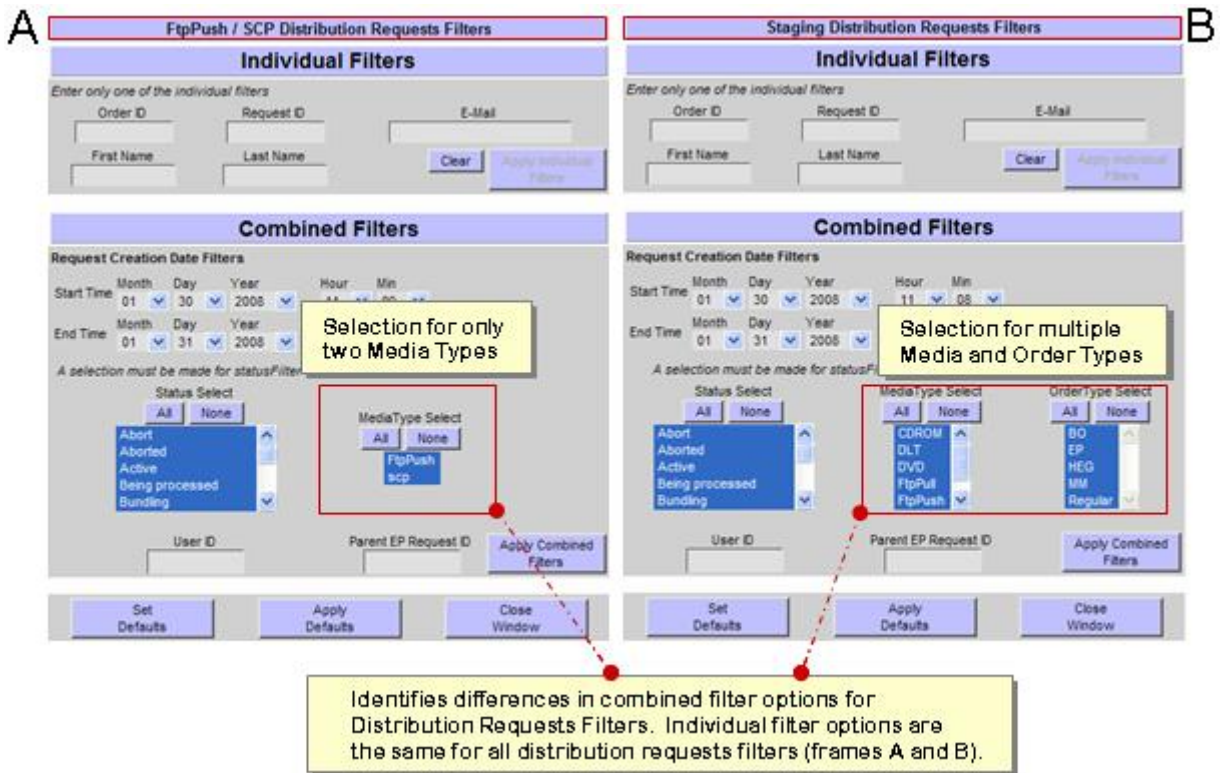

Figure 15.6-24. FtpPush/SCP (A) and Staging (B) Distribution Requests Filters
- The **FtpPush/SCP Distribution Requests** page (Figure 15.6-24) displays.
- The **FtpPush/SCP (or Staging) Distribution Requests Filters** window (Figure 15.6-24, Frame A (or Frame B) appears.
- 1 - **Individual Filters** – displays limited options (Figure 15.6-24, Frame A (or B) to set a defined criteria specific to a distribution request. Those options are:
- 2 - **Combined Filters** – has several options (Figure 15.6-24, Frame A (or B) to allow operator to combine multiple criteria to define the filter.
- For **FtpPush/SCP** distribution requests, media options include FtpPush or SCP (Secure Copy Protocol), Figure 15.6-24, Frame A.
- For **Staging** distribution requests, media options include CDROM, DLT, DVD, FtpPull, FtpPush, SCP (Secure Copy Protocol), Figure 15.6-24, Frame B.
- For **Staging** distribution requests, order type options include, “Regular,” “BO” (Bundled Order), “EP” (Extended Play), “HEG” (HDF-EOS to GeoTIFF Conversion), Figure 15.6-24, Frame B.